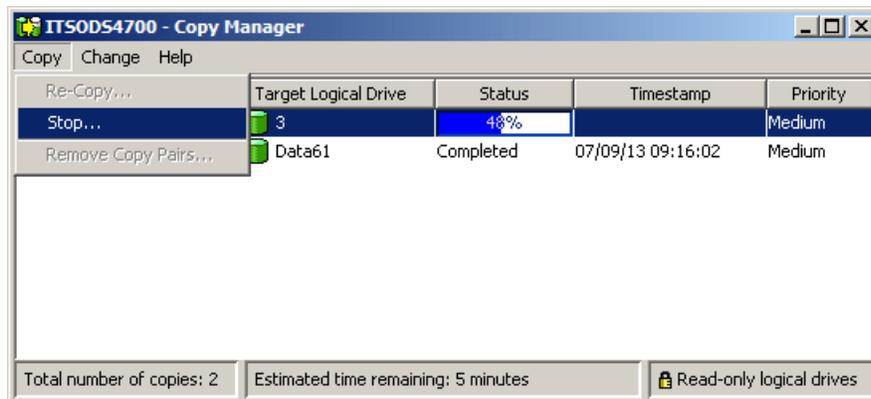

Figure 9-20 Copy Manager: Stop copy menu
3. Select either the **Copy** → **Stop** pull-down menu option or **Stop Copy** from the right-mouse pop-up menu (Figure 9-20).